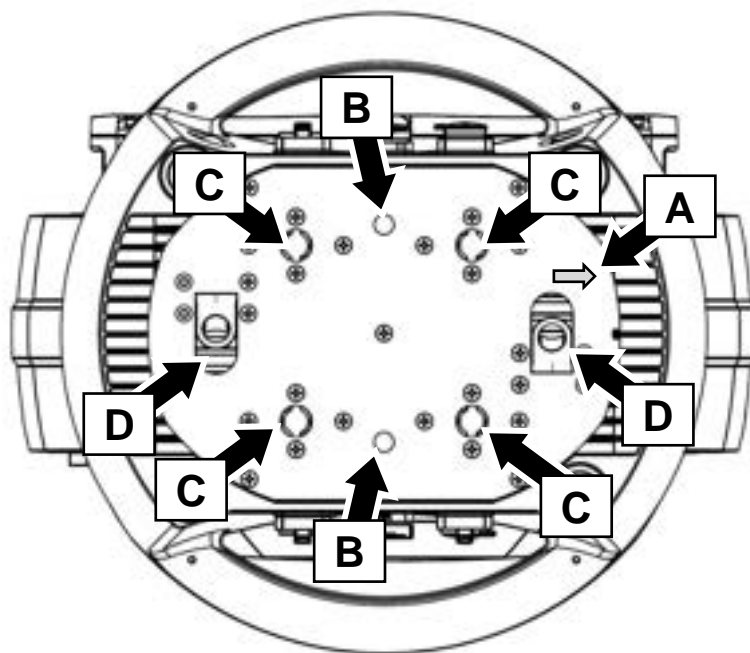

Figure 2. Fixture baseplate
See **A** in Figure 2. An arrow marked FRONT is printed on the baseplate. Install the fixture with this arrow pointing towards the stage or main target.
2. See Figure 2. Fasten the bolts through the half-coupler clamps and into the M10 threaded holes **B** in the fixture's baseplate so that the clamps are held securely.
2. See Figure 2. Line up the camlock quarter-turn pins in the omega brackets with the camlock fastener points **C** in the base of the fixture and turn the four camlock locking levers a full 90° clockwise to lock the brackets to the fixture.
1. See Figure 2. Pass the safety cable through one of the two safety cable attachment points **D** in the base of the fixture. Do not use either of the fixture's handles for safety cable attachment. Do not use an omega bracket installed on
2. Remove the rubber connector seal from the powerCON TRUE1 TOP MAINS IN socket (see 'Fixture overview' on page 14 Figure 2). Line up the keys in the connector correctly with the keyways in the socket.